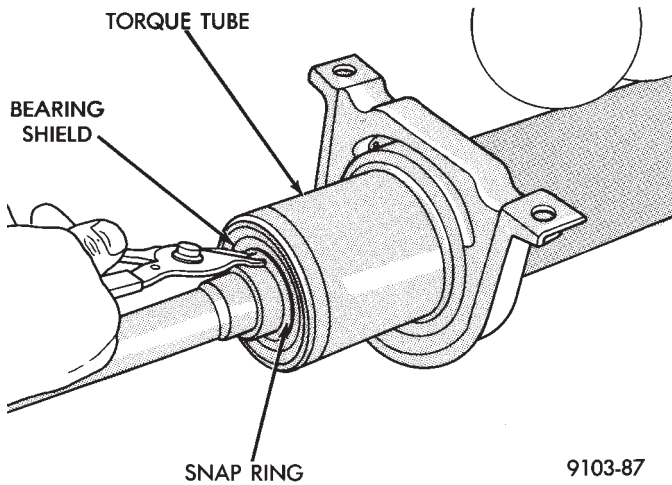

Fig. 1 Remove Torque Shaft Snap Ring and Torque Tube Shield
- (1) Remove rear drive line module assembly from vehicle.
- (2) Remove viscous coupling.
- (3) Remove snap ring and torque tube bearing shield (Fig. 1).